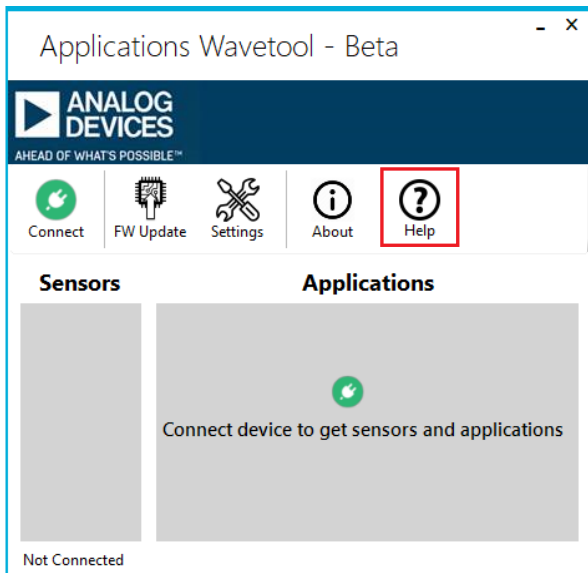

Figure 2. Applications Wavetool - Beta Home Screen
1. Open the Wavetool Evaluation Software application file from the directory where it was installed. Click the **Help** button (see Figure 2) on the software home screen.